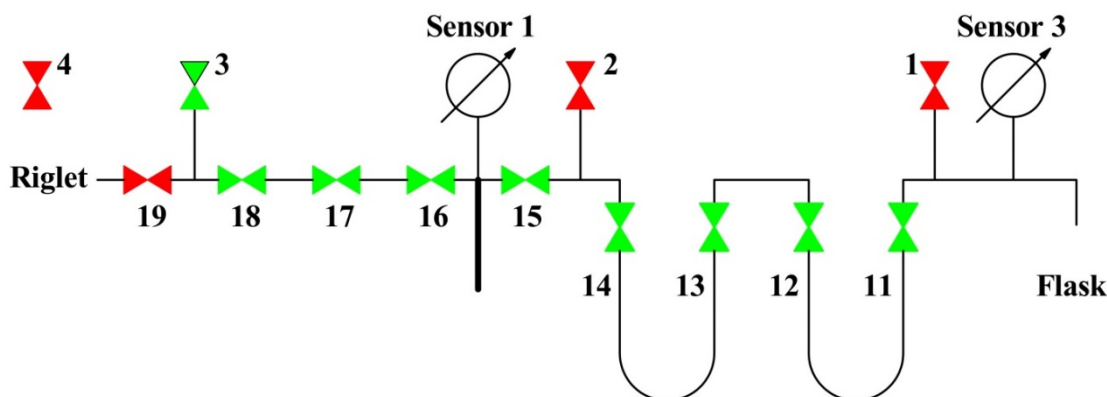

Fig. 3 Opening states of the valves in step 3, green = open, red = closed
- 3) After the waiting time of 10 min set the valves as in Fig. 3, i.e. pump the whole line trough V3